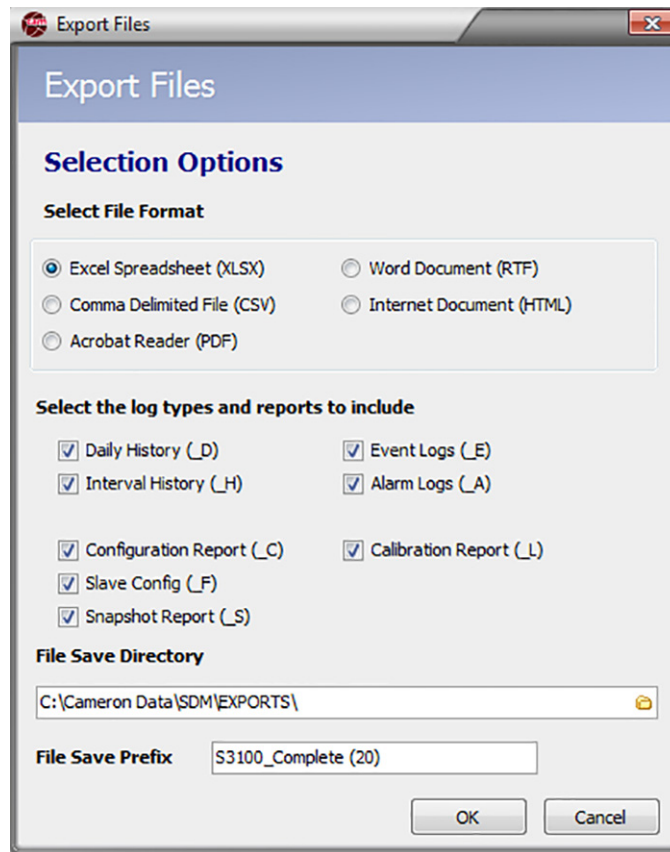

Figure 3.3—Export Files dialog
2. Select the desired file format, log types and reports from the options (Figure 3.3, page 34).
3. Note the filepath (Figure 3.3) and change if necessary. By default, export files are saved to the “C:\Cameron Data\SDM\Exports” directory on the user’s hard drive.
2. Click on the **Email Data** button in the left column of the screen and click the appropriate **Email All as...** selection from the dropdown menu (Figure 3.3, page 34).